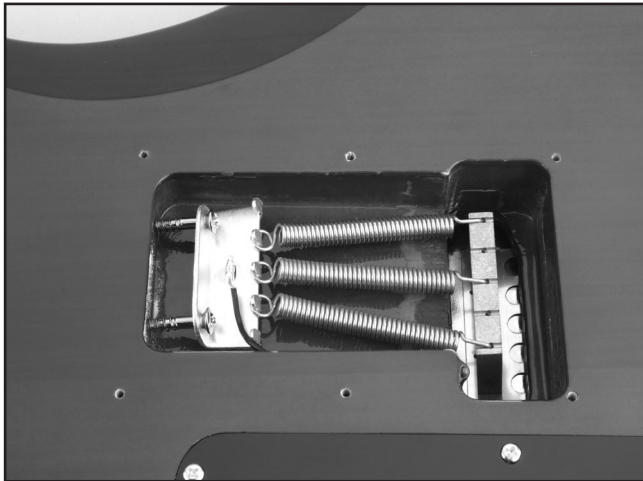

Figure 44. Spring adjustment.
1. Tighten the spring claw screws to approximately $\frac{5}{8}$ " from the front edge of the tremolo cavity as shown in **Figure 44**.